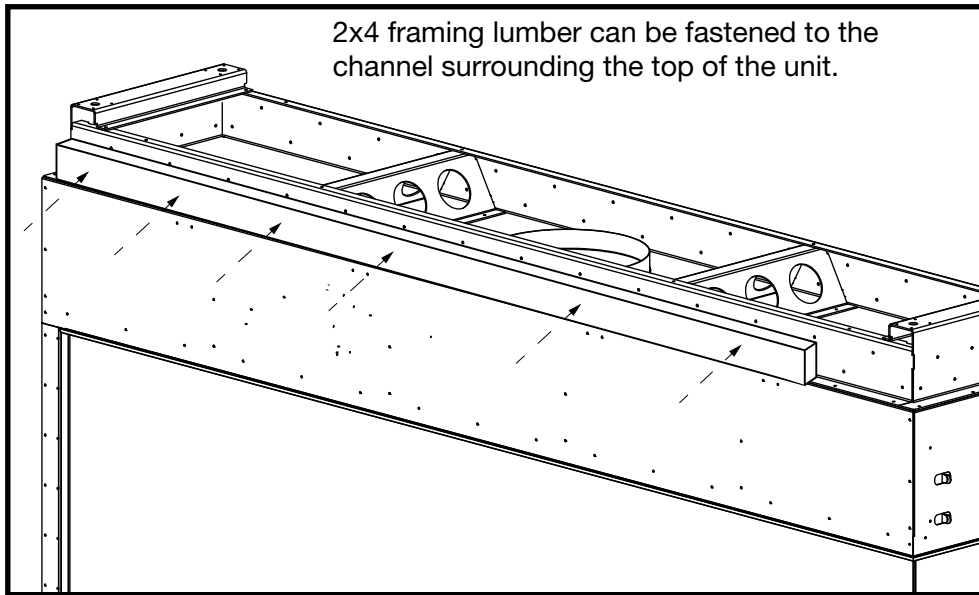

Figure 11: Stud securing points.
1. When securing wooden studs to the top of the unit, the screws can be secured through any part of the upper fastening area surface (Figure 11).